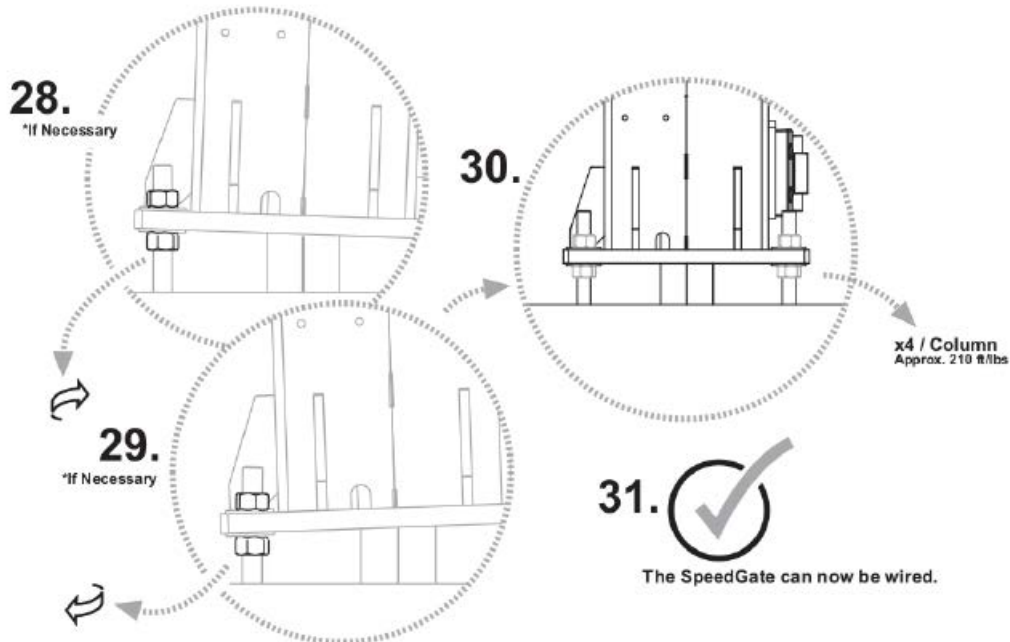

**Figure 11. Securing of Columns**
- Secure both columns using nuts/washers. Column anchor bolts should be tightened firmly – they may need to be loosened during guide channel installation for PDTT (top track) models. All anchor bolts should be tightened to 210 ft-lbs (284.76 N m). See Figure 11.